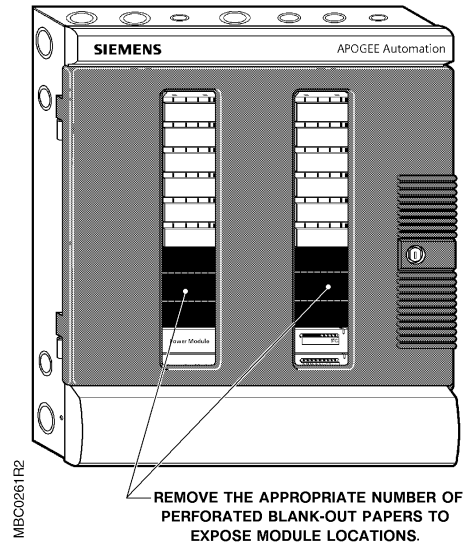

Figure 8. Exposing Module Locations.
2. Remove the perforated blank-out papers from the view panel to expose each installed module location (Figure 8).